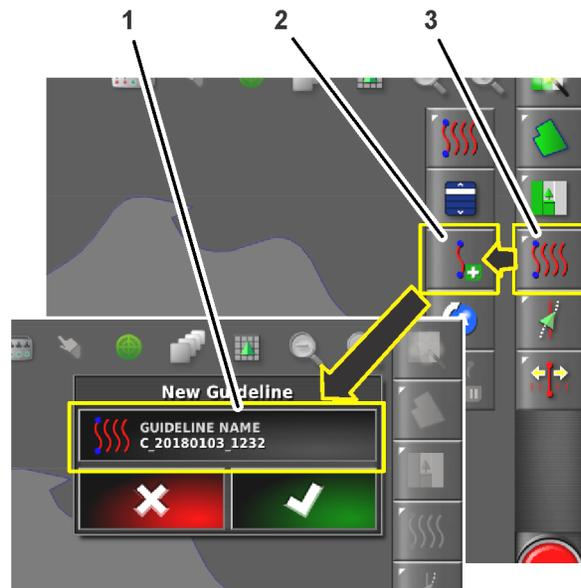

Figure 8
1. Press the guideline menu icon (Figure 8).
2. Press the create new AB line icon (Figure 8).
3. Press the guideline name icon (Figure 8).